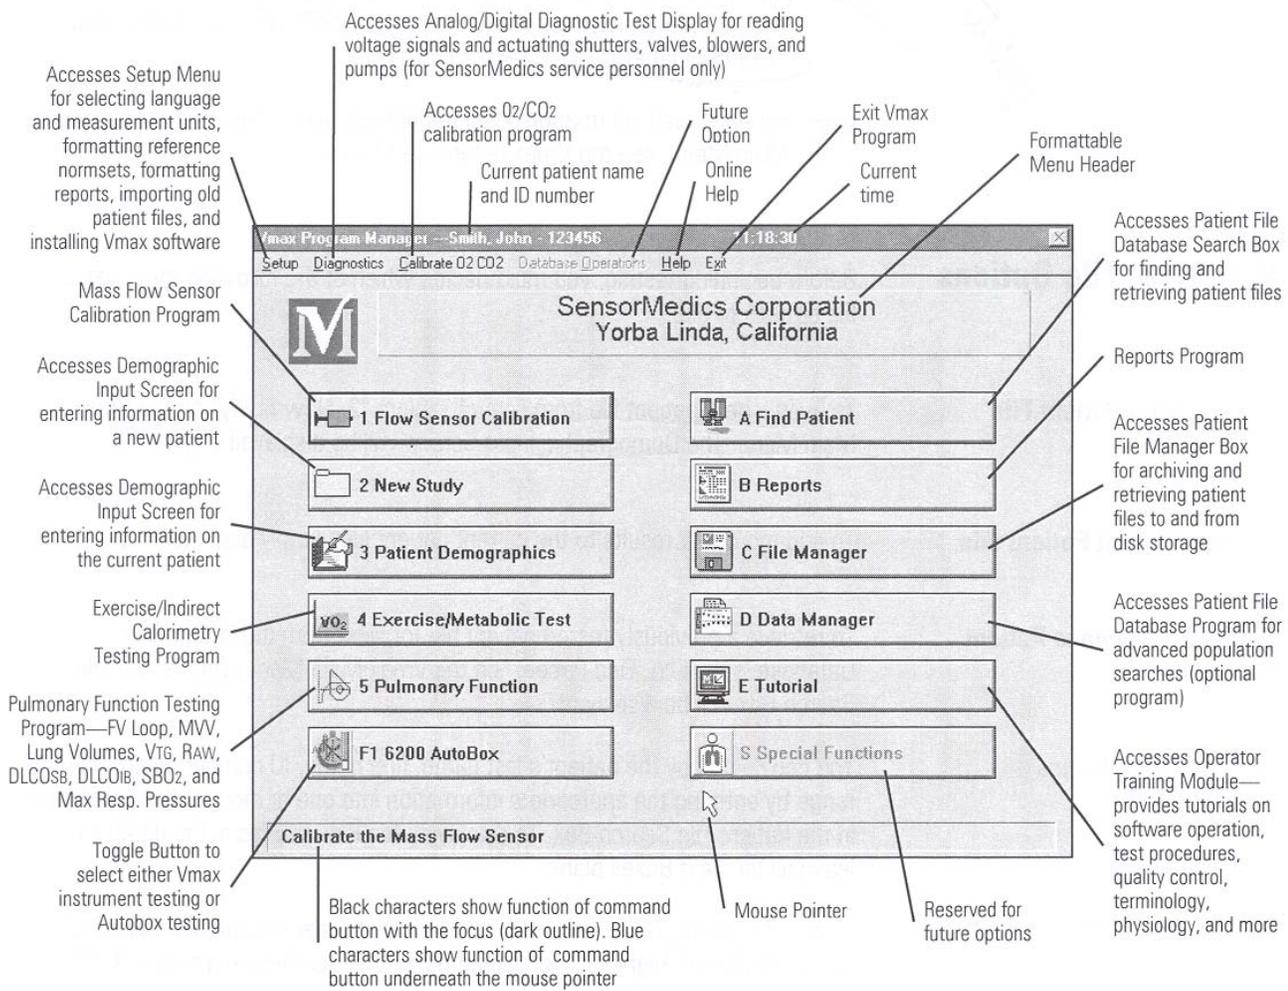

Figure 3-3 – Vmax Program Manager
1. In the **Vmax Program Manager** window (Figure 3-3 on page 32), click **Exit** to return to the Windows desktop.
If the Vmax program is not running, double-click the Vmax icon on the Windows desktop, which starts the program and opens the Vmax Program Manager (Figure 3-3). You can make selections in the Vmax Program Manager window by clicking any of the function buttons, by selecting menu items, and by pressing the associated keyboard keys (identified on the function buttons).